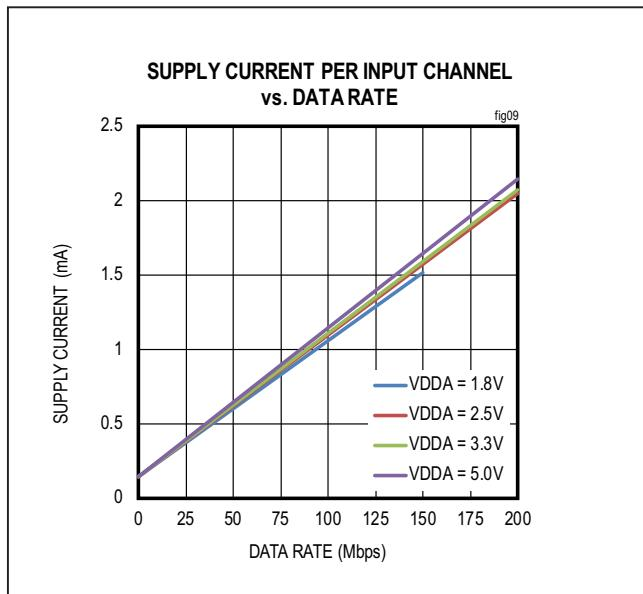
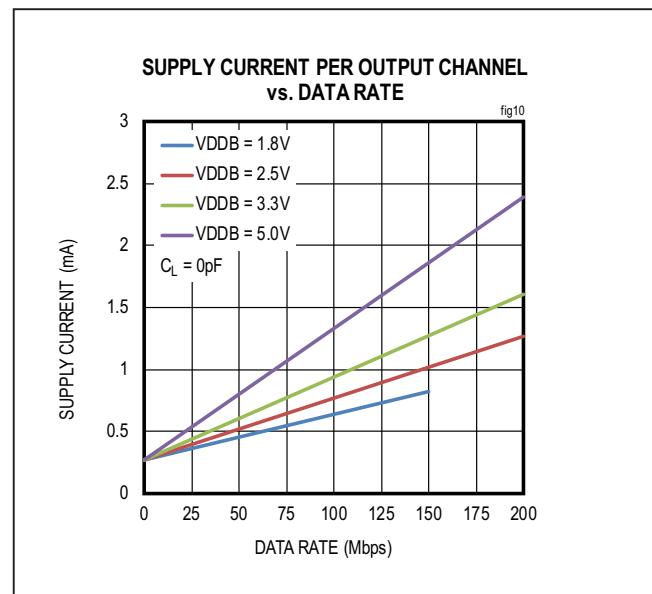

Figure 9. Supply Current Per Input Channel (Estimated)
Figure 10. Supply Current Per Output Channel (Estimated)
The required current for a given supply (VDDA or VDDB) can be estimated by summing the current required for each channel. The supply current for a channel depends on whether the channel is an input or an output, the channel's data rate, and the capacitive or resistive load if it is an output. The typical current for an input or output at any data rate can be estimated from the graphs in Figure 9 and Figure 10. Please note the data in Figure 9 and Figure 10 are extrapolated from the supply current measurements in a typical operating condition.
The total current for a single channel is the sum of the "no load" current (shown in Figure 9 and Figure 10) which is a function of Voltage and Data Rate, and the "load current," which depends on the type of load. Current into a capacitive load is a function of the load capacitance, the switching frequency, and the supply voltage.
- Channel 1 is an input channel operating at 2.5V and 20Mbps, consuming 0.33mA, estimated from Figure 9.
- Channel 2 and 3 are input channels operating at 2.5V with DC signal, consuming 0.14mA, estimated from Figure 9.
- Channel 4 is an output channel operating at 2.5V and 100Mbps, consuming 0.77mA, estimated from Figure 10.
- Channel 1 is an output channel operating at 3.3V and 20Mbps, consuming 0.40mA, estimated from Figure 10.
- Channel 2 and 3 are output channels operating at 3.3V with DC signal, consuming 0.27mA, estimated from Figure 10.
- Channel 4 is an input channel operating at 3.3V and 100Mbps, consuming 1.11mA, estimated from Figure 9.